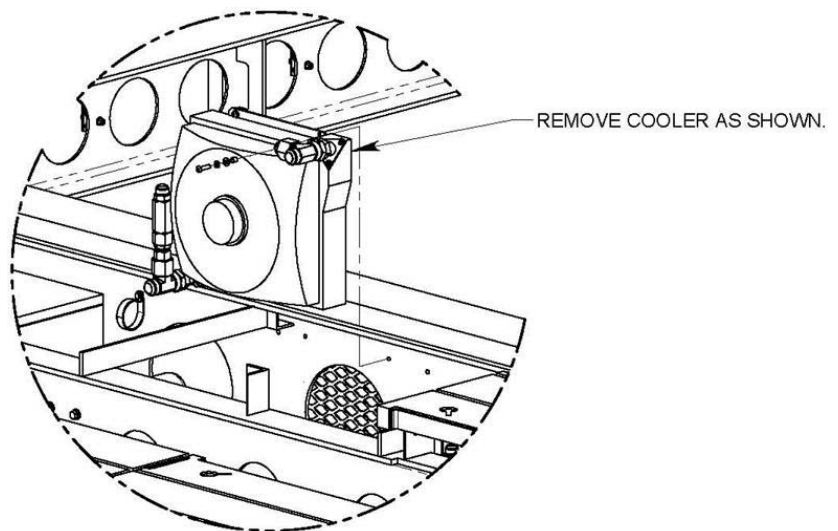

Figure 3
Step 4: Remove the cooler assembly as shown in Figure 3. Once removed, the fan kit can be replaced on the cooler if necessary.